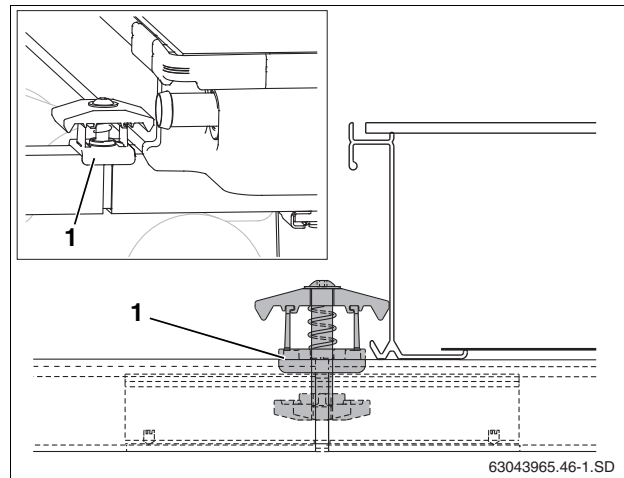

Fig. 42 Installing a double-sided collector clamp
- ▶ Insert the double-sided collector clamp, nut first, into the connector between two horizontal rails, then turn 90 degrees clockwise and push down onto the rail with the plastic cover (Fig. 42, [1]) sitting on top of the horizontal rail.